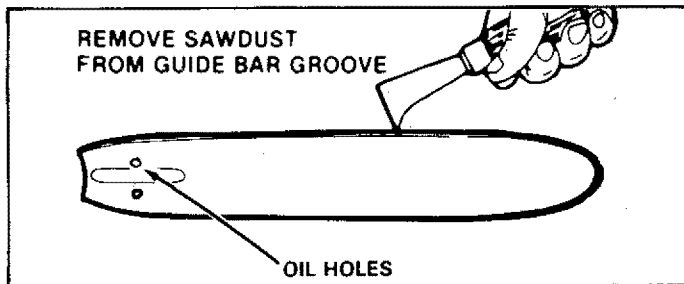

Figure 33
- Clean oil holes at least once for each five hours of operation. Figure 33.
- Remove sawdust from the guide bar groove periodically with a putty knife or a wire. Figure 33.